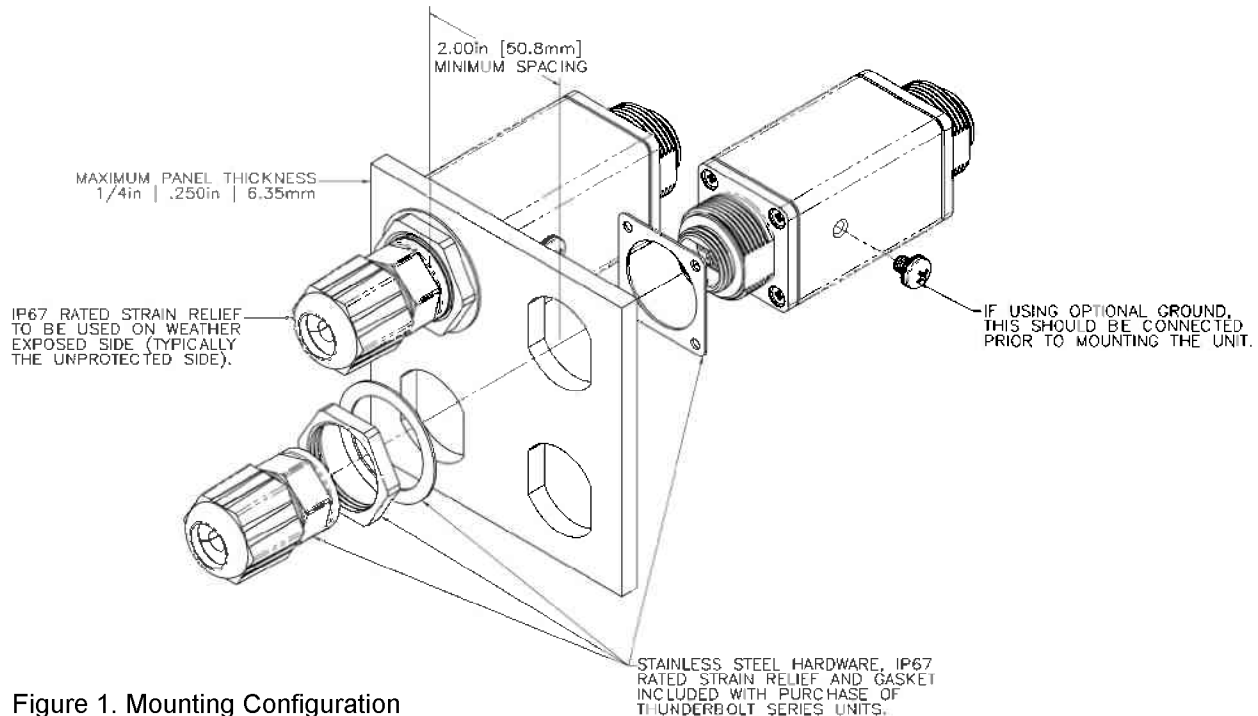
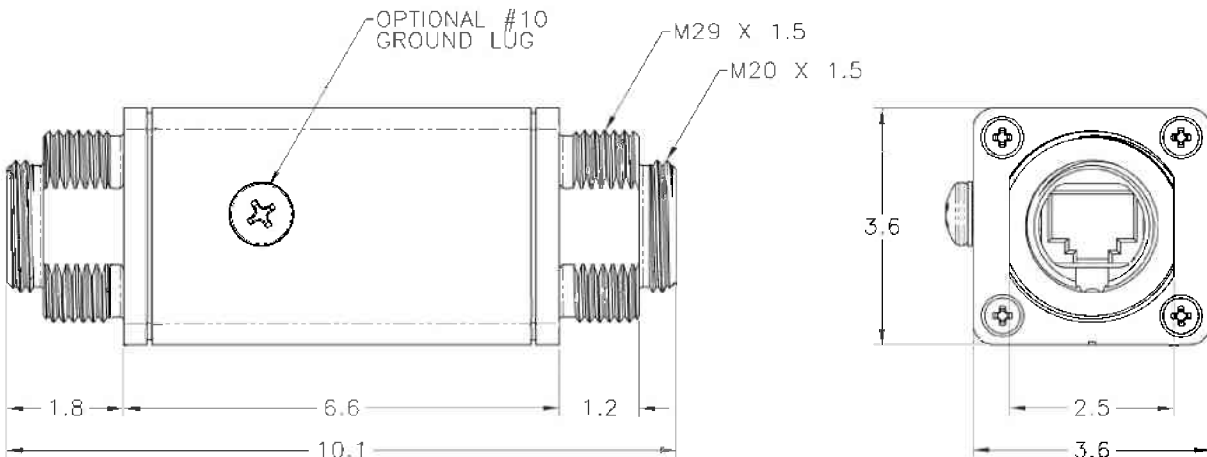

Figure 1. Mounting Configuration
Figure 2. Mechanical outline (cm)
The Thunderbolt series provides a #10 ground screw as well as a molded RJ-45 connector shroud with cable gland and mounting hardware as depicted in Figure 1. The RJ45 shroud is compatible with EuroComp, Inc, IP67 rated strain relief model LTWRJS-00BFFA-SL7001.
5. INSTALLATION: The Thunderbolt is intended to be installed onto any grounded metal frame bulk head or bracket. The unit can be used with the thunder kit weather gasket or EMI gasket to achieve up to 60 dB isolation. Refer to figure 1 for mechanical dimensions and figure 2 for hardware accessories.
- 5.1. Install the Thunderbolt protector into the prescribed area. The Thunderbolt mounts through a 29mm hole in the bulkhead or enclosure. Be sure to orient the device with the “unprotected” side oriented out to the exposed wire direction (see Figure 1).
- 5.2. Attach an optional grounding conductor, 10awg minimum (not provided) between the ground lug on the Thunderbolt and the nearest Master Ground Bar connection. The grounding wires should be as short as possible (see Figure 2).